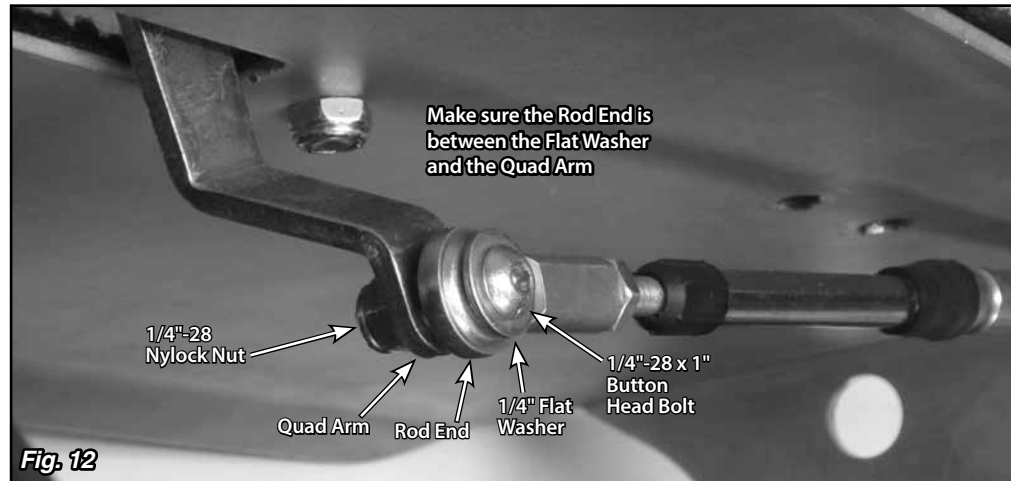

Fig. 12
Step 16: Route the cable up to the shifter and attach the other rod end to the quad arm using a 1/4"-28 x 1" button head bolt, flat washer, and nylock nut. **Fig. 12** The button head bolt can be installed from either direction, but make sure the rod end is sandwiched between the quad arm and the flat washer. When routing the cable, make sure that it is not touching the exhaust or any moving parts. The cable should be routed as smoothly as possible without any sharp bends.